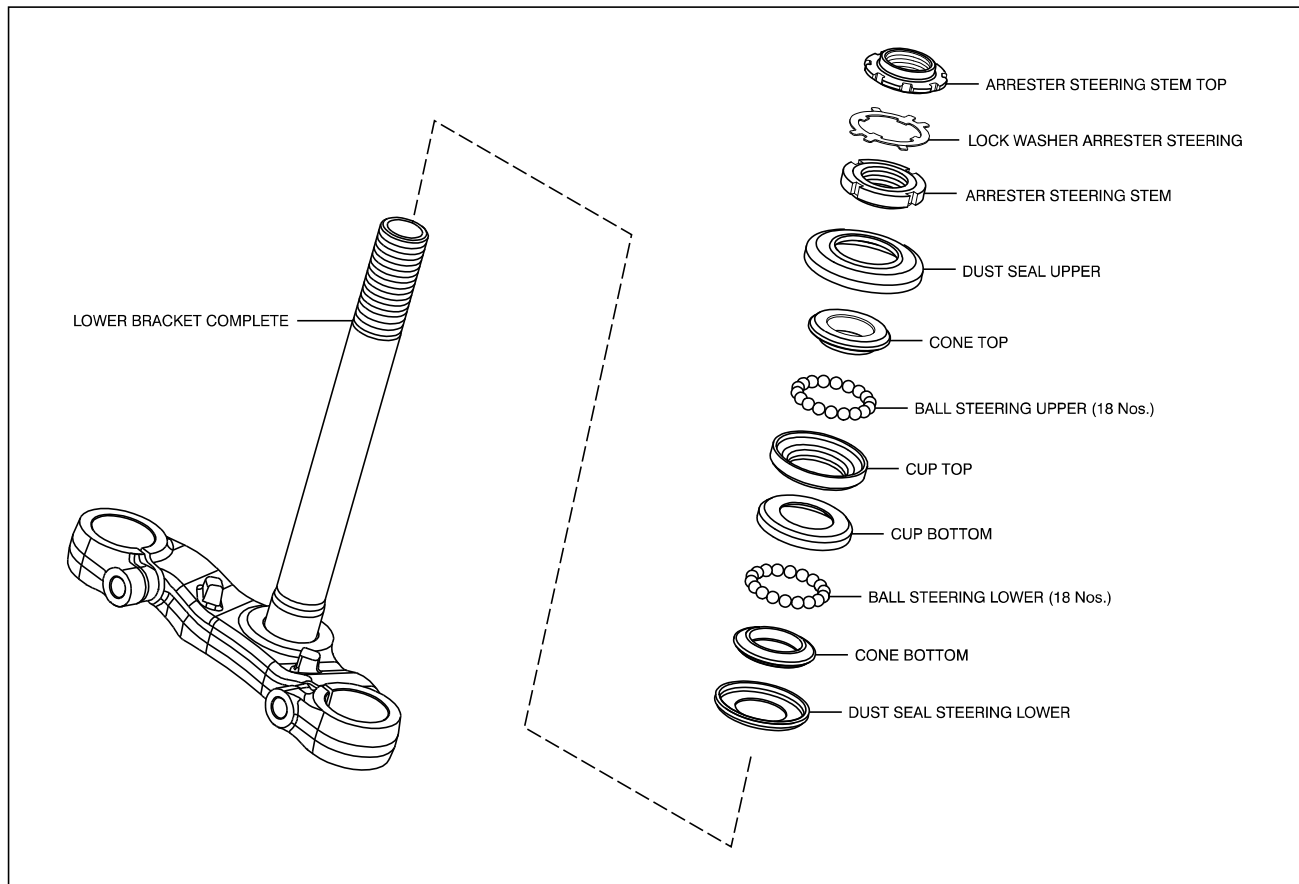

Fig. 6.76
- Refer lower bracket complete exploded view (Fig. 6.76) for assembly details.